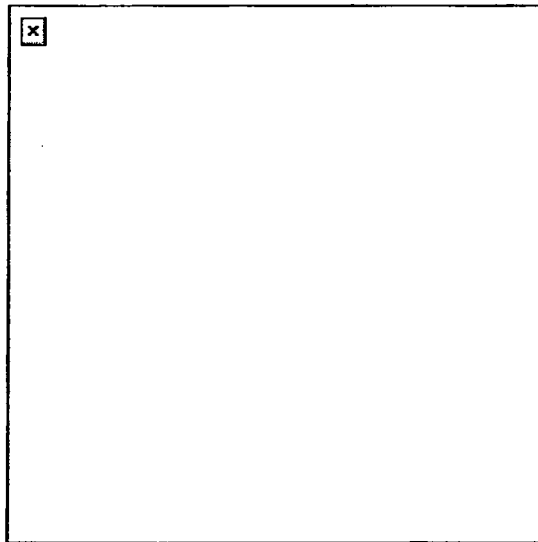

Figure 10. Crouching position.
- e. Crouching (Figure 10). This position is the same as the standing-without-support position, except you must bend your knees slightly. Balance by leaning forward at the waist.